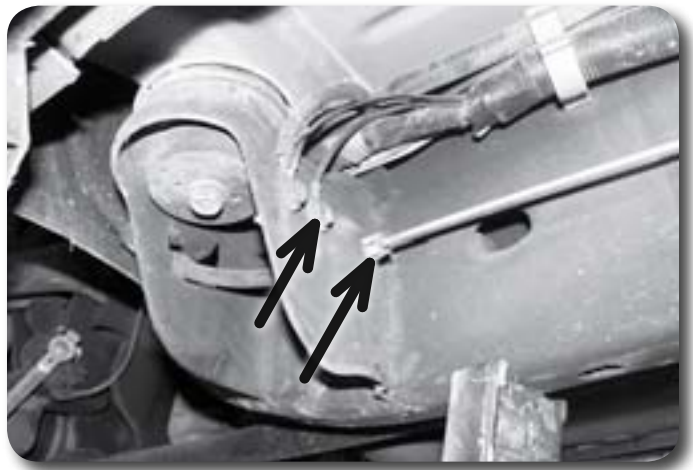

Figure 13
17. Remove the front half of the parking brake cable from the body mount. Compress the retaining tabs with pliers and push the cable through the hole **Figure 13**.
18. There is a ground wire(s) located next to the parking brake cable mounting hole **Figure 13**. Disconnect the wires from the mount.